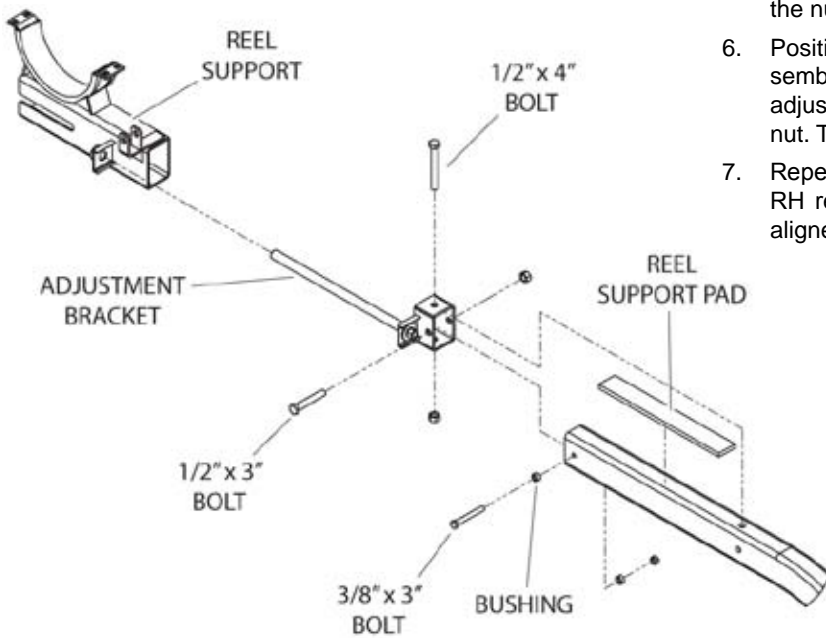

Figure 23, Reel support installation for Gleaner series 2 & 3 (LH arm shown)
1. Mount an adjustment bracket onto the OEM LH reel arm as shown in Figures 23 (Gleaner series 2 & 3) and 24 (all other headers).